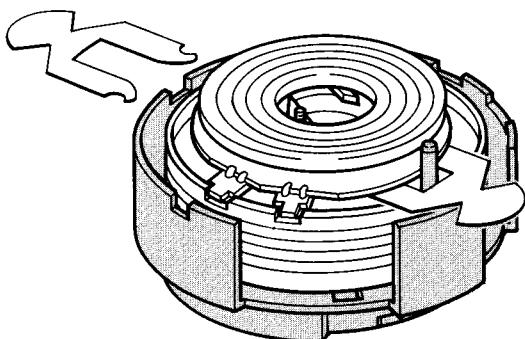

Fig. 1-6
*Attention:* The upper protective cover and the 2 mylar foils (thickness 0,15 mm) remain on the head disc during this operation (Fig. 1-6).